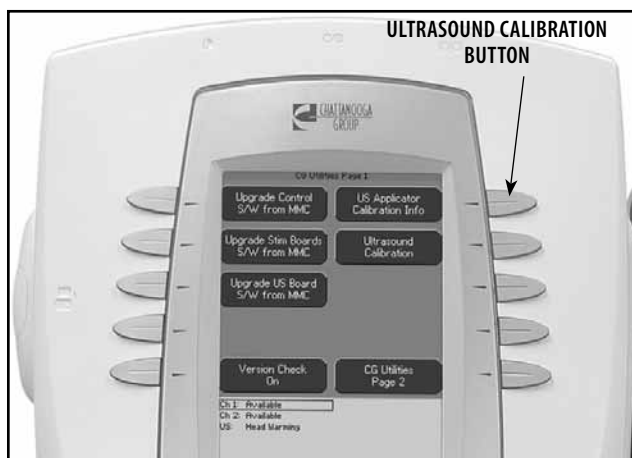

FIGURE 8.2
3. Press the Ultrasound Calibration Button. See Figure 8.2.